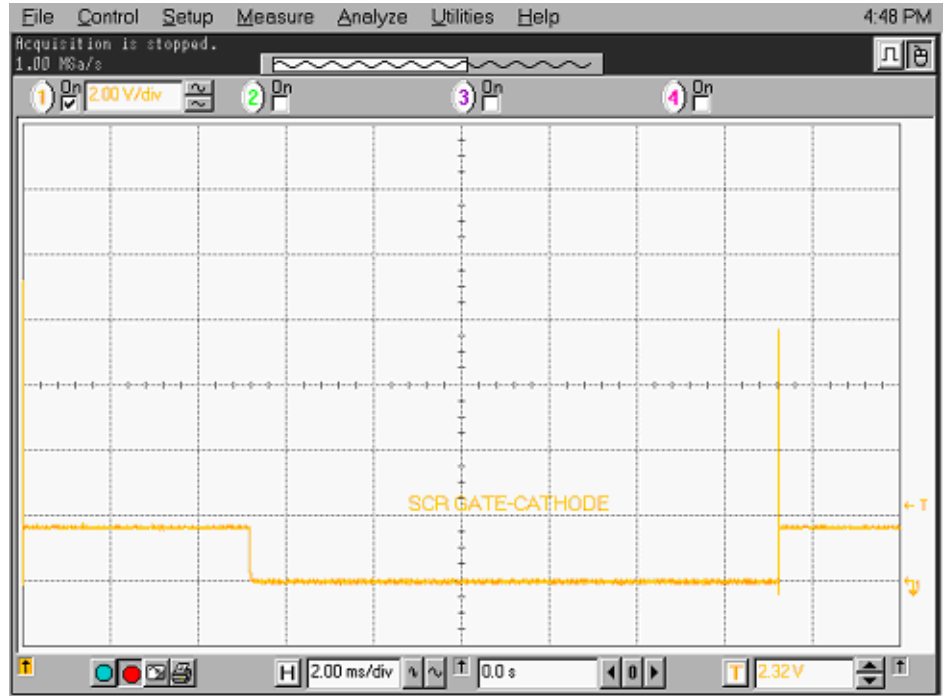
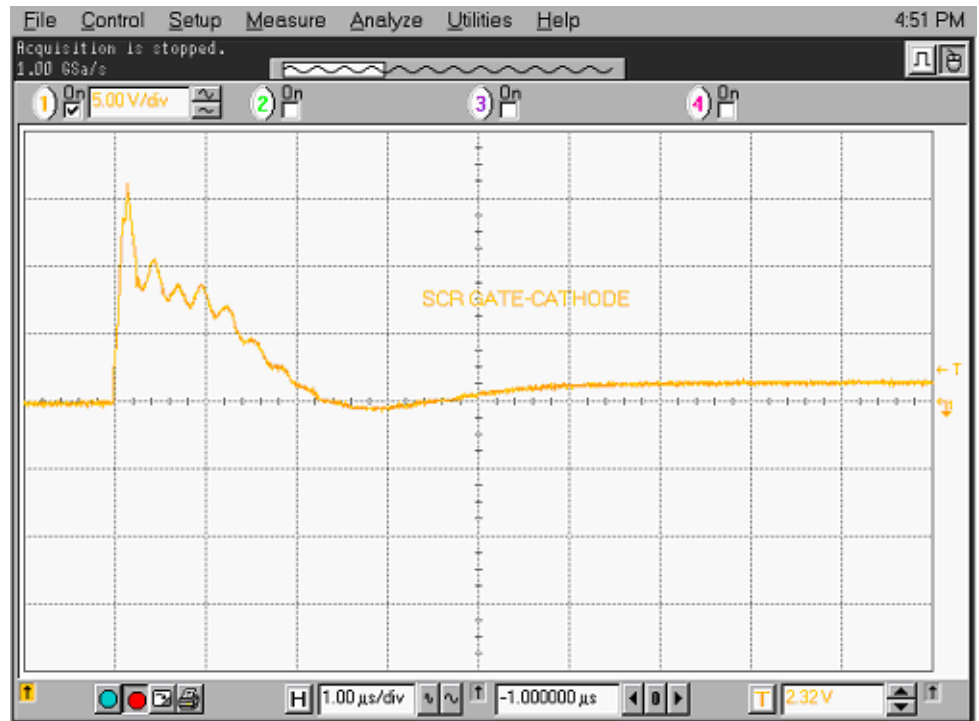

Figure 63 - SCR Gating Pulse
Figure 64 - Expanded SCR Gating Pulse
19. Verify that the signal between TP1 and TP2 is as shown in Figure 63 on page 81 and Figure 64 on page 81.